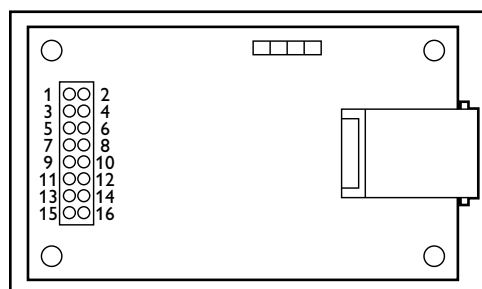

Figure 1: Location of the header pins
- For connection details of the header pins see figure 1 and tables 1 and 2 below.